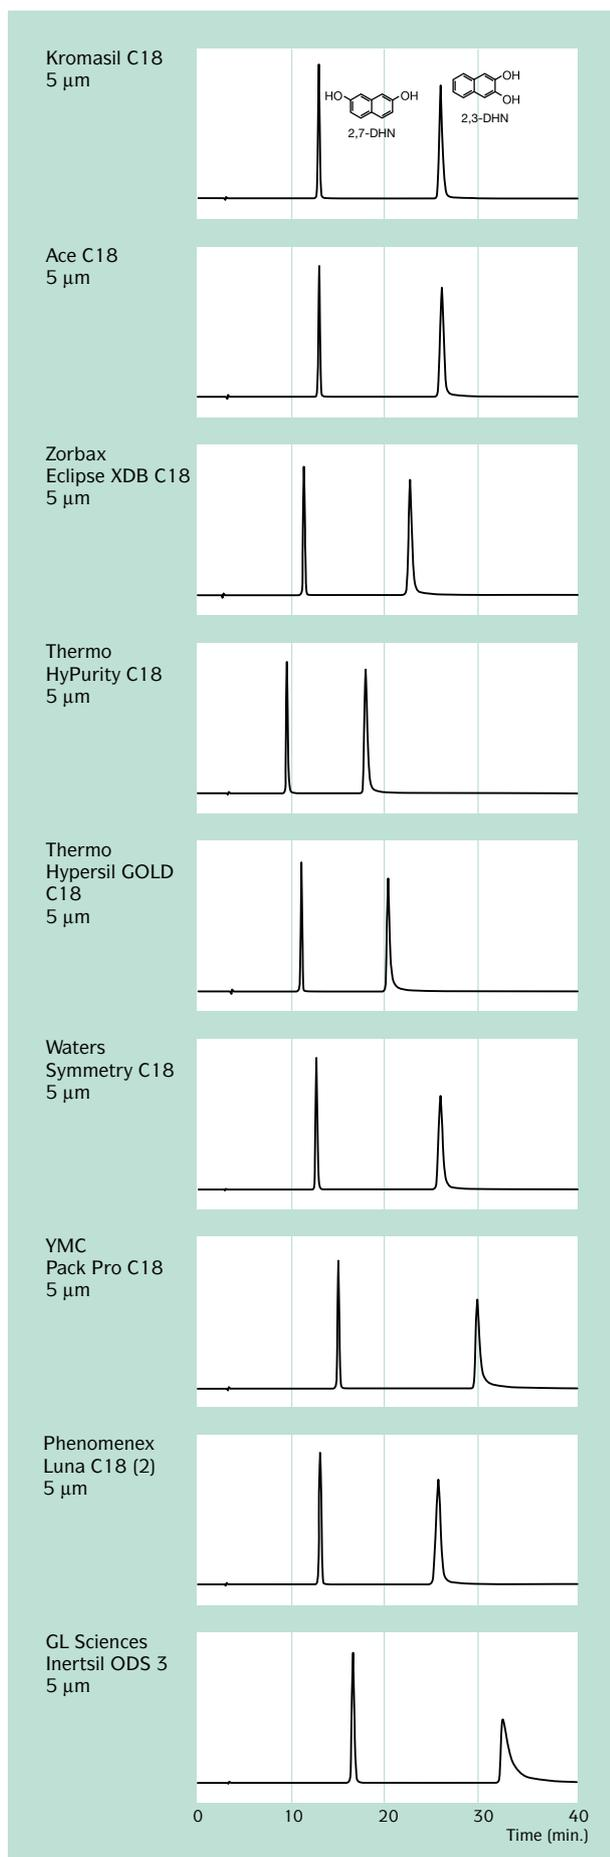
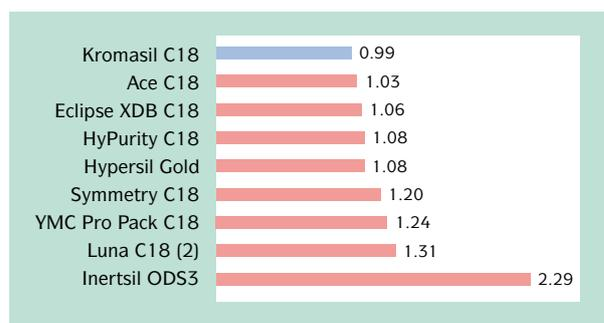

Figure 4 | Chromatograms from the DERT.
Figure 5 | Summary of the DERT-values.
In order to visualize the difference in metal ion content and the impact thereof we investigated eight commercially available  $5 \mu\text{m}$ -C18 phases. We performed the DERT and compared the outcome with a Kromasil  $5 \mu\text{m}$ -C18 column. In figure 4 you will find the chromatograms and in figure 5 we have summarized the result by showing the DERT-value ( $= N_{2,7-DHN} / N_{2,3-DHN}$ ) for the investigated phases. The plate count (N) between 2,3-DHN and 2,7-DHN should ideally be identical, i.e. the DERT-value should be close to 1!